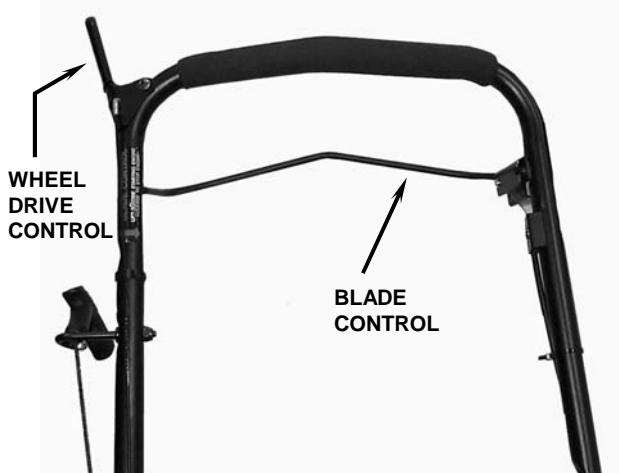

FIGURE 2.1
**2.1.2.** Check blade control and wheel drive control to insure they work freely. See Figure 2.1.
**2.** Pull blade control against handle. See Figure 2.1.
3. Move wheel drive control against handle to engage wheel drive and propel mower forward. See Figure 2.1.